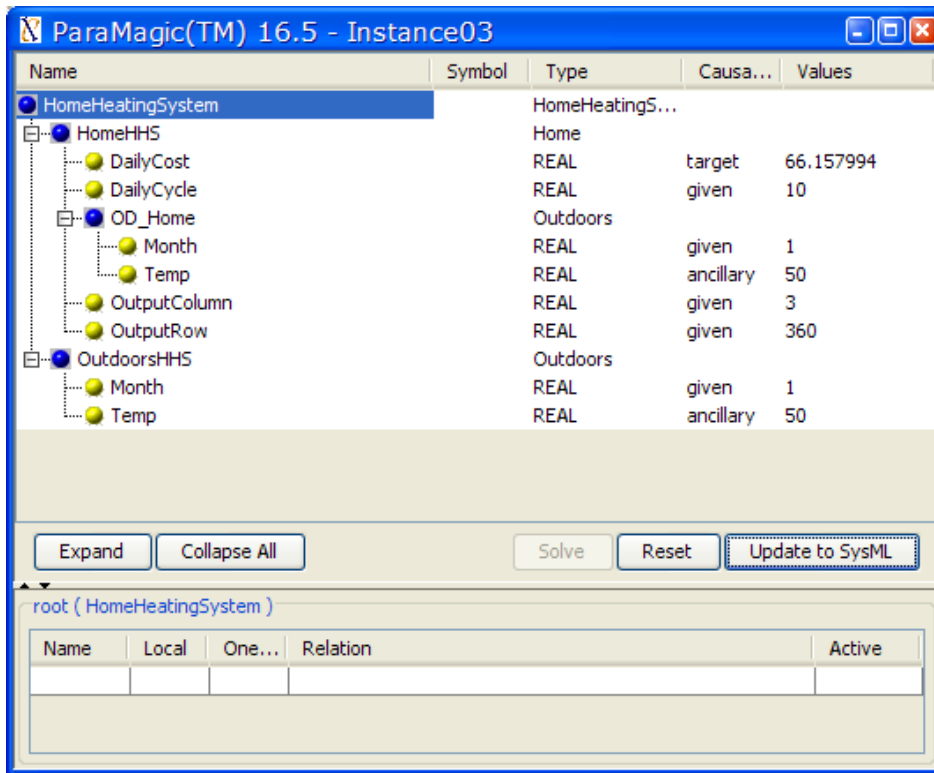

Figure 7.10 Browser after execution.
e. The final browser results are shown in Figure 7.10.